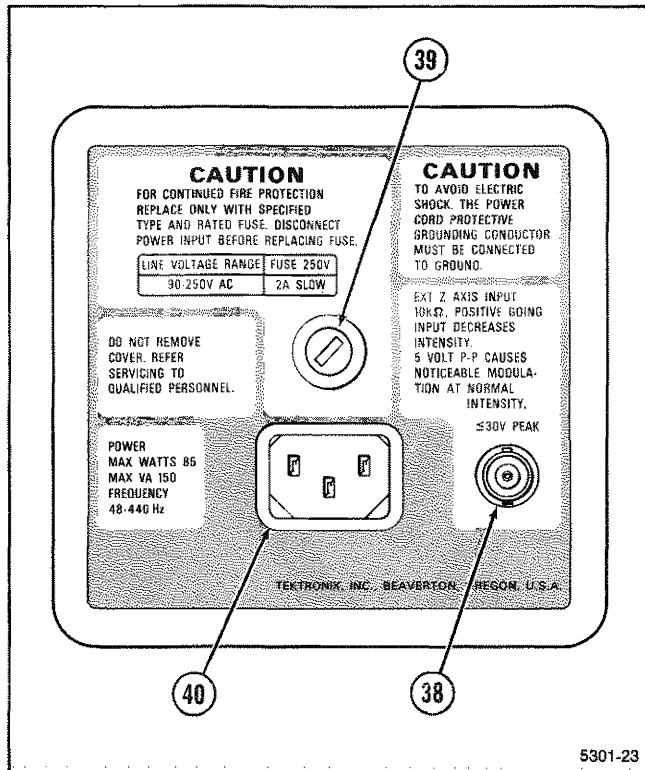

Figure 3-6. Rear Panel.
Refer to Figure 3-6 for the location of items 38 through 40.